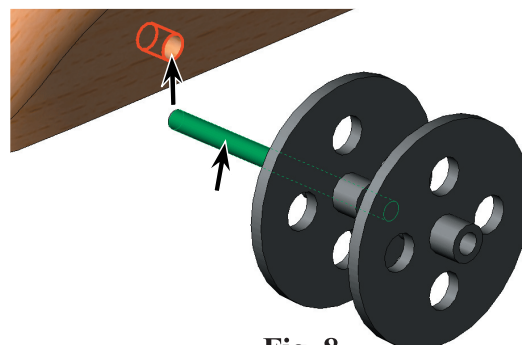

Fig. 8
Step 10. Click **cylindrical face of axle** and **cylindrical inside face of axle hole in body**, **Fig. 8**.